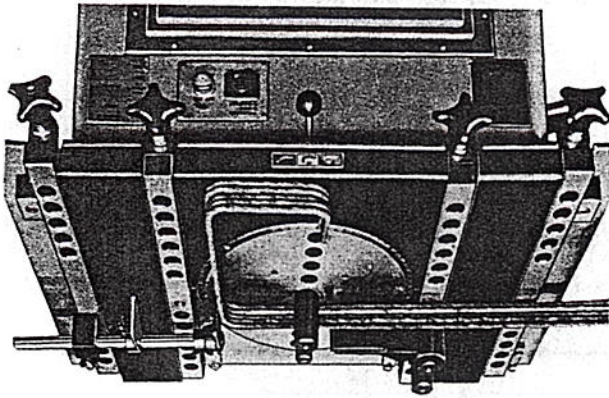

Fig. 14: Stress member bending attachment
- Fig. 14 Assembly Drawing: Tool Kit
Stress members and angular coils are manufactured with the aid of the angular bending attachment (optional extra). This consists of the guide bar with stop blocks and the stops. The layout of the angular bending attachment is shown by Fig. 14. The bending pin, the carrier pin, any rolls that may be required and the overarm bracket for light bars are set up in the usual manner. The guide bar with its stop blocks is inserted into one of the holes in the outer overarm retainer bar. The hinged stops can be shifted on the guide bar to correspond with the varying lengths of the legs and are locked in position by a wing bolt.